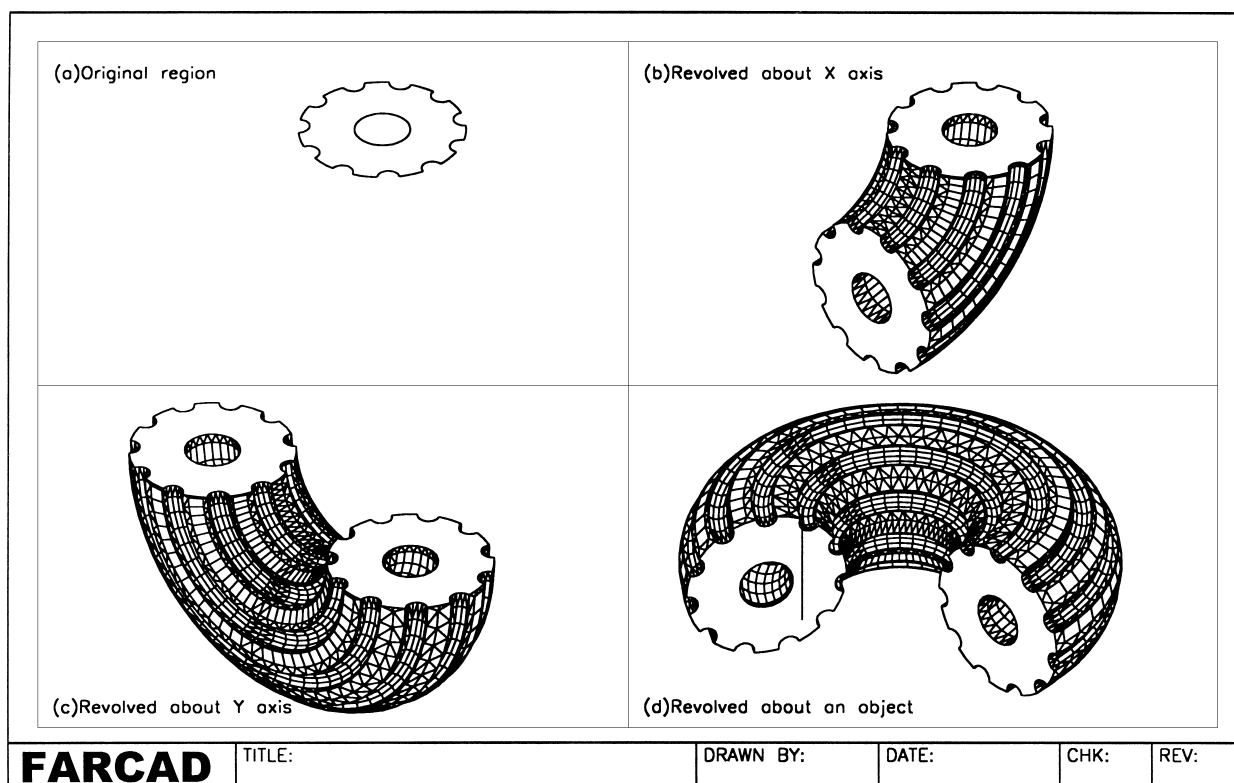

Figure 36.2 Region example 2 – a revolved component.
- 1 Open drawing file MODR2002\REGEX saved from the previous exercise with UCS BASE as Fig. 36.2(a)